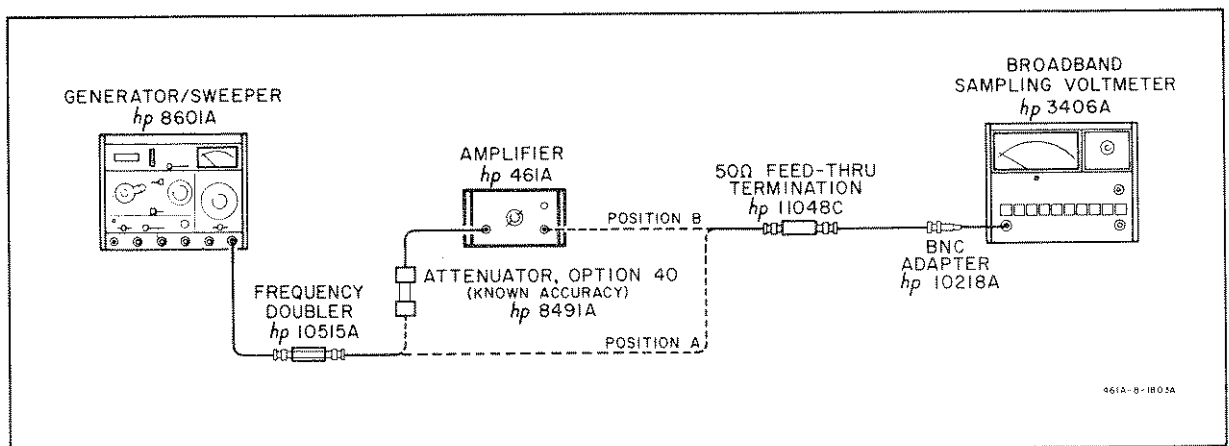
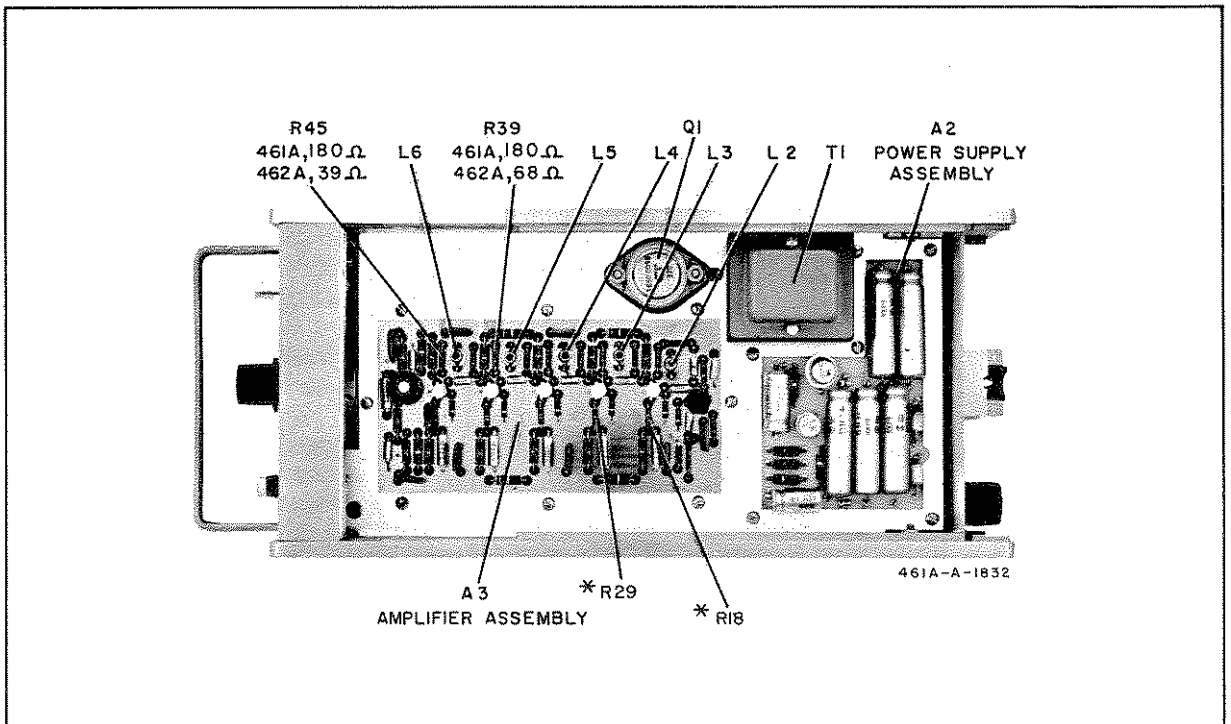

Figure 5-3. High Frequency Response Check
Figure 5-11. Top View
- a. Connect the 461A as in Figure 5-3, position B, using the 40 dB attenuator and turning the signal generator output to minimum.
- d. Connect the ac voltmeter as in Figure 5-3, position A. Record the voltmeter reading for an input reference level.
- j. Connect the circuit in Figure 5-3 using the 20 dB attenuator and placing the 461A in the 20 DB GAIN position. Repeat steps b through g. If the frequency response is not within \pm 1 dB refer to Troubleshooting paragraph 5-31 and Table 5-2.
The test equipment in Figure 5-3 must be used for an accurate check and for a final adjustment for high frequency response. L2 through L6 should not have to be adjusted unless some component is changed in the feedback path. If the coils have to be adjusted, carefully peel away the cement, turn the coil with a plastic tuner and when the alignment is finished, cement the coils again with Duco cement. Refer to Figure 5-11 for location of coils.
- a. Connect the test setup as in Figure 5-3 and repeat paragraph 5-12, steps a through g.